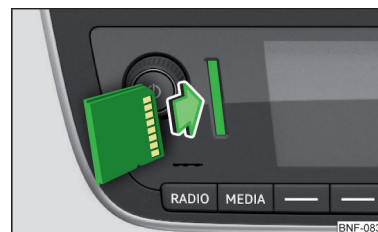

Fig. 107
- **Insert** the SD card in the slot in the direction of the arrow (with the cut end facing upwards), until it "locks" » Fig. 107.